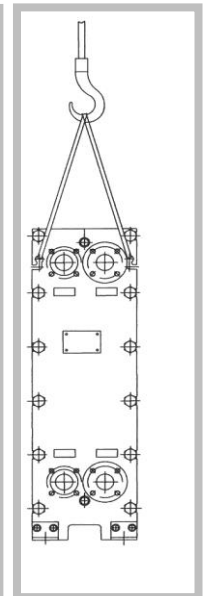

Figure 24
4. Carefully lower the PHE onto the base of the apparatus (Figure 24).